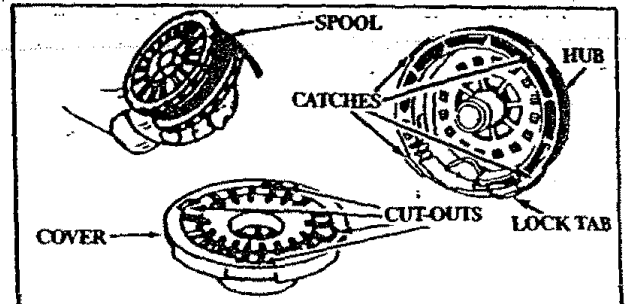

Figure 21
- Remove the Cover and Spool. Figure 21.
- Align the four catches on the Hub with the cut-outs in the Cover. Figure 21.